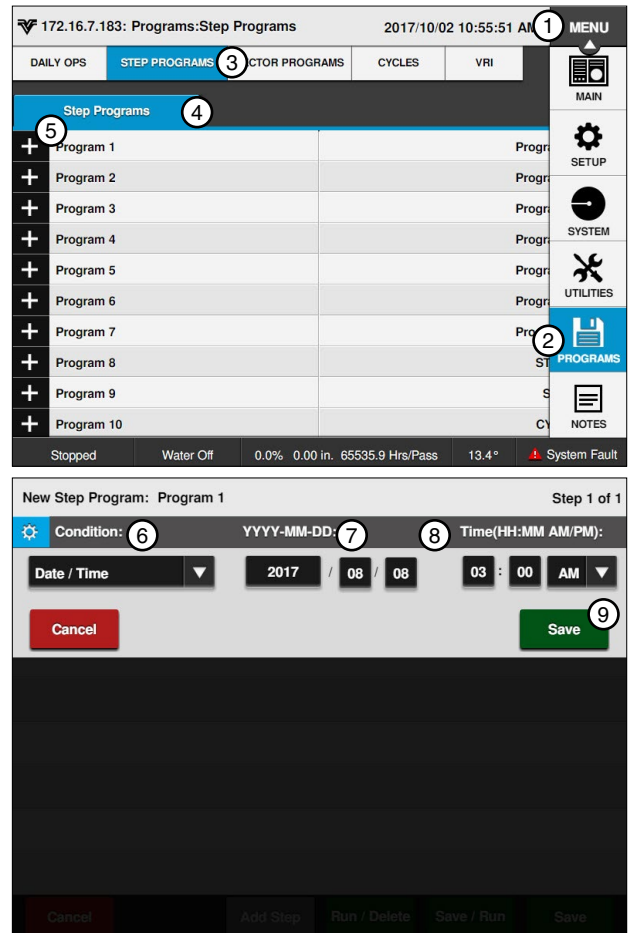

Figure 111-2
1. Push **Menu**, **Programs**, and **Step Programs** to view the Step Programs screen. Refer to Figure 111-2.
2. Push the **New Program** button corresponding to the preferred program number as shown in Figure 111-2.
3. Program the start time on a date and time. Refer to Figure 111-2.